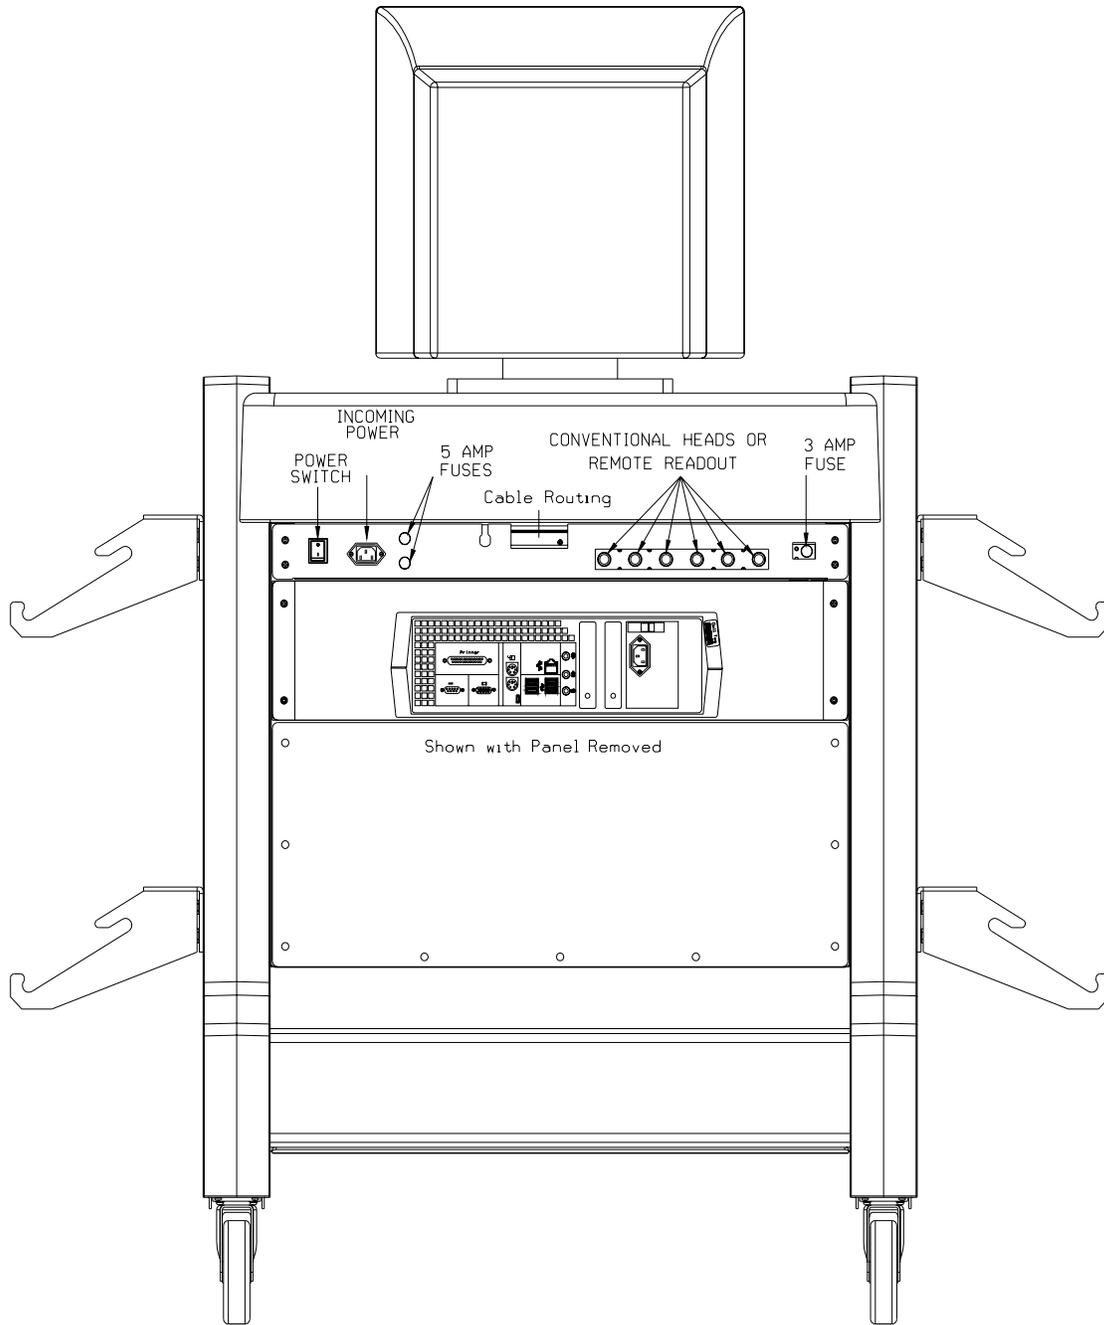

Figure 2 - Console rear view with PC access panel removed
6. Remove the back panel from the rear of the console as shown in Figure 2.
10. Route cables from each of the above peripherals to the PC. Refer to the drawing detail in Figures 2 and 3 for proper cable connections.